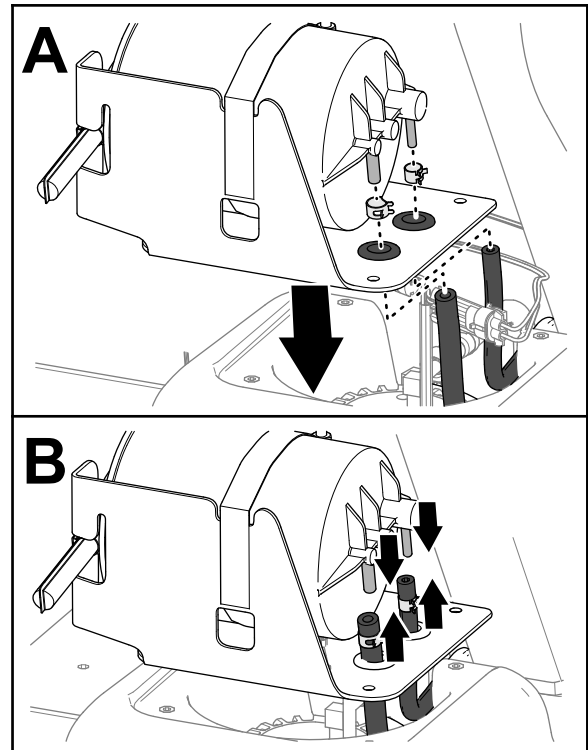

Figure 78
1. Align the fuel tank hoses through the grommets of the carbon-canister bracket (Figure 78).
2. Assemble the hose clamps over the hoses (Figure 78).
3. Assemble the hoses onto the fittings of the carbon canister (Figure 78).